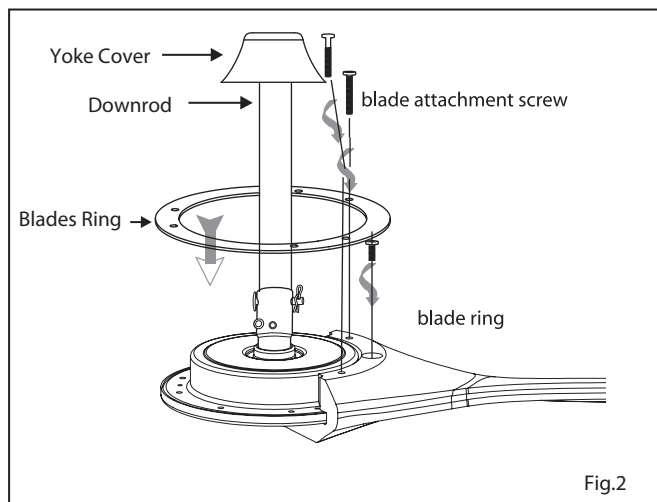

Fig.2
- 3 Loosen the two security set screws and remove the downrod pin and retaining clip from the coupling on top of the motor assembly. (Fig. 2)
- 1 Locate 9 blade attachment screws. Slide one blade onto the motor as shown in Fig.2, aligning holes in blade with holes on the edge of the motor.
- 2 Seat the cradle A into the wall plate. (Fig. 2)
- 6 Signal light (Fig. 2)